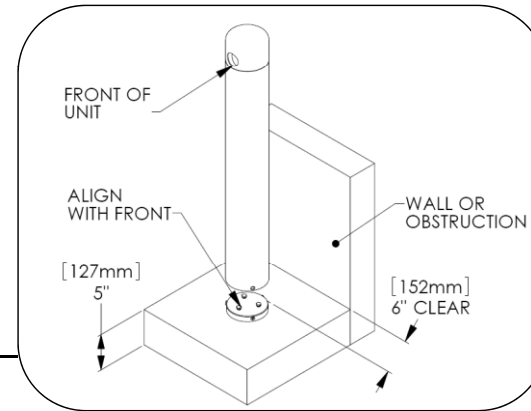

Fig. 1 – Unit placement
1. Set unit in place. Allow for clearance for removal of ashtray, see Fig. 1.